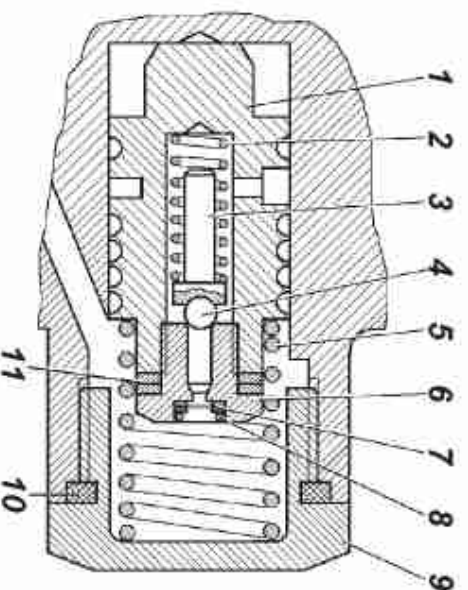

Fig. 9.27. Pump Control and Safety Valves:
1. Unscrew dummy plug 9 (Fig. 9.27), placed over the outlet orifice of the pump.